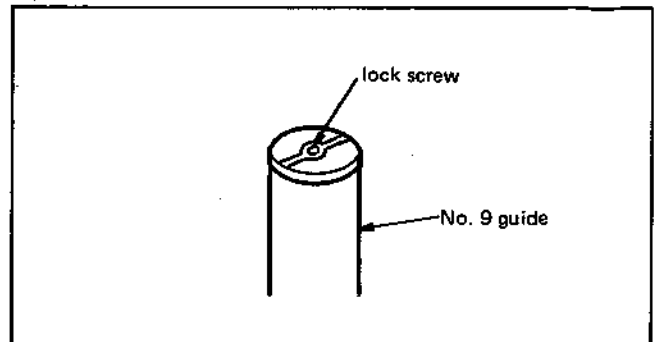

Fig. 3-22
- 8) Loosen No. 9 guide lock screw. (Fig. 3-22)